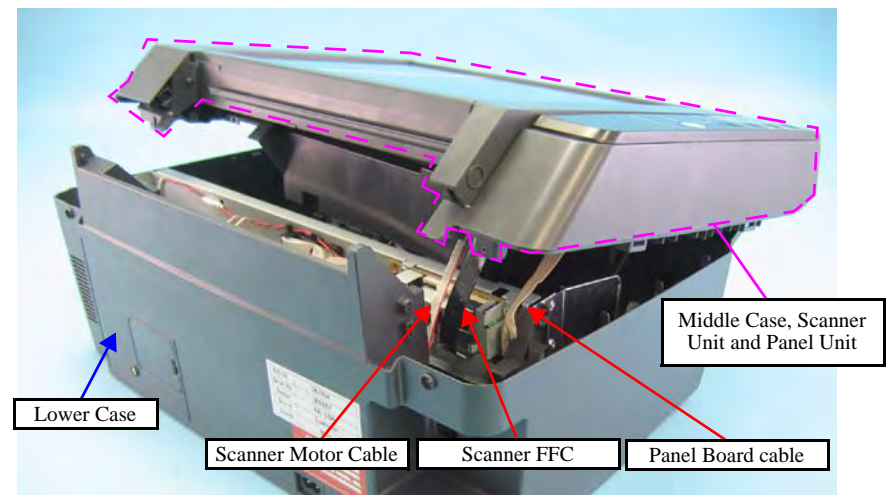

Figure 4-16. Removing Scanner Unit /Middle Case /Panel Unit (6)
2. Place the Panel Unit/Scanner Unit/Middle Case as shown in Figure 4-16.